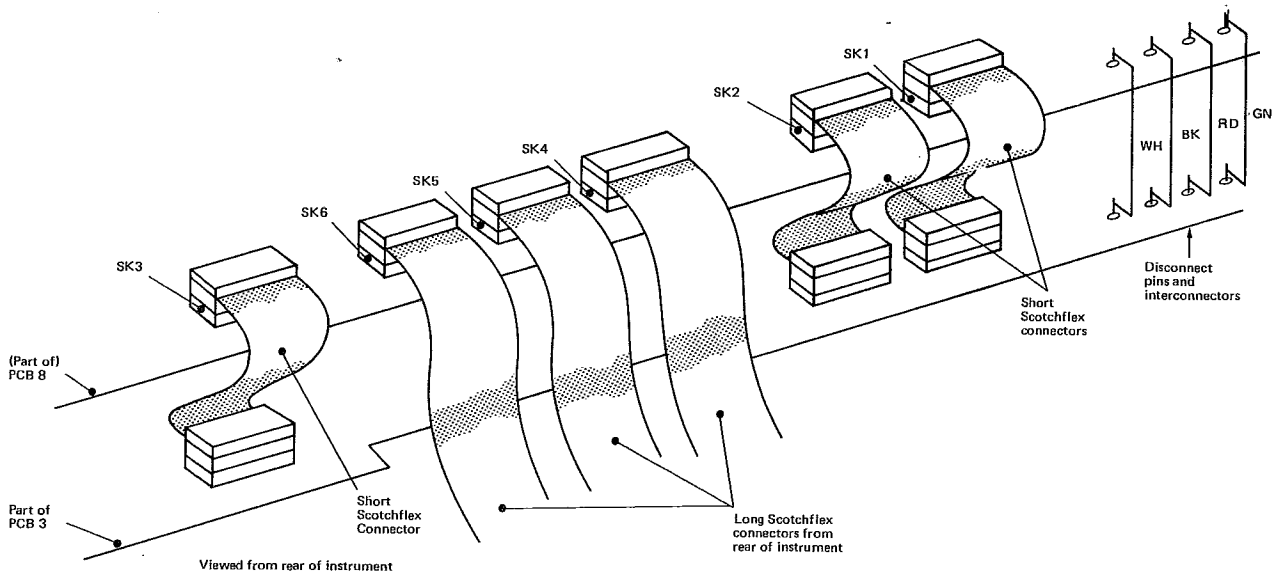
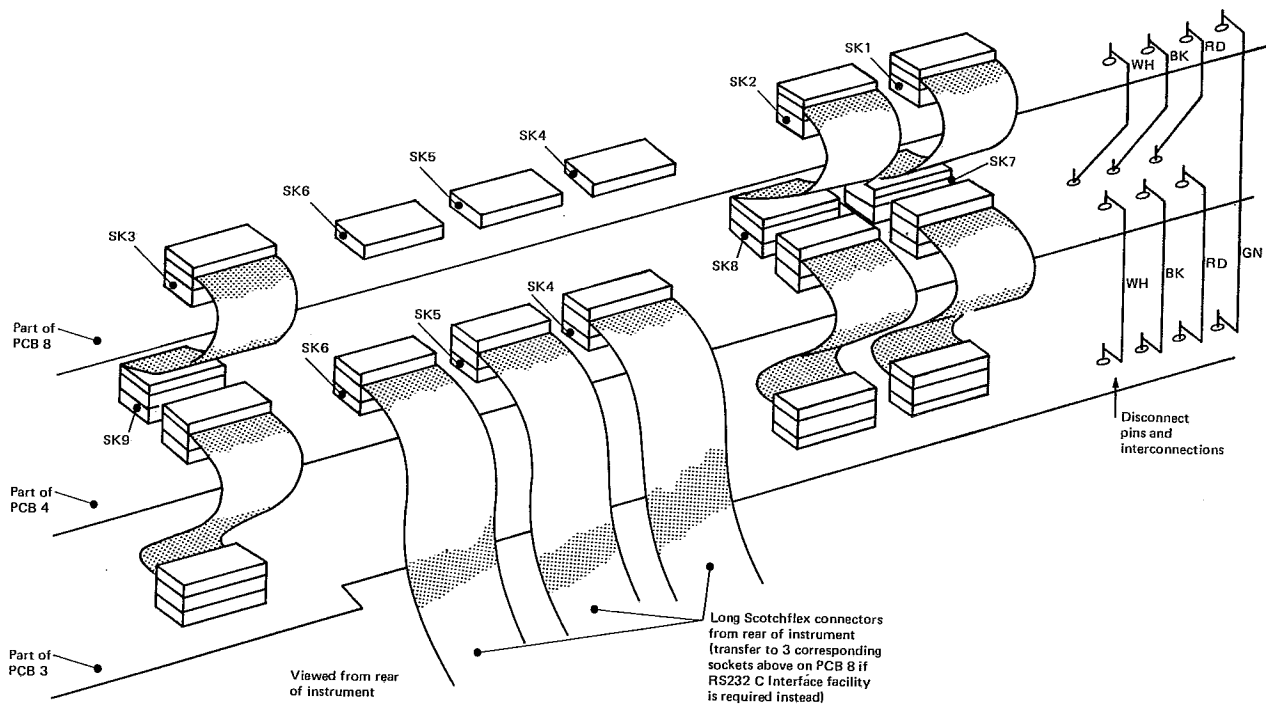

Fig. 4 Interconnections to PCB 8 (if PCB 4 not fitted)
Fig. 5 Interconnections to PCB 8 (if PCB 4 fitted)
7. Fit the 4 disconnect leads – red (RD), white (WH), black (BK) and green (GN) – to the +5VA, 0V, +5VB and 50Hz disconnect pins on pcb 3/4 as appropriate. If pcb 4 is not fitted see Fig. 4, otherwise see Fig. 5.
9. Connect the short Scotchflex connectors to the sockets on pcb 8 which are immediately in line with each connector (Figs. 4 and 5). Similarly connect the long Scotchflex connectors, see note below.
10. Connect the disconnect leads to pcb 8 as shown in Fig. 4 or 5.